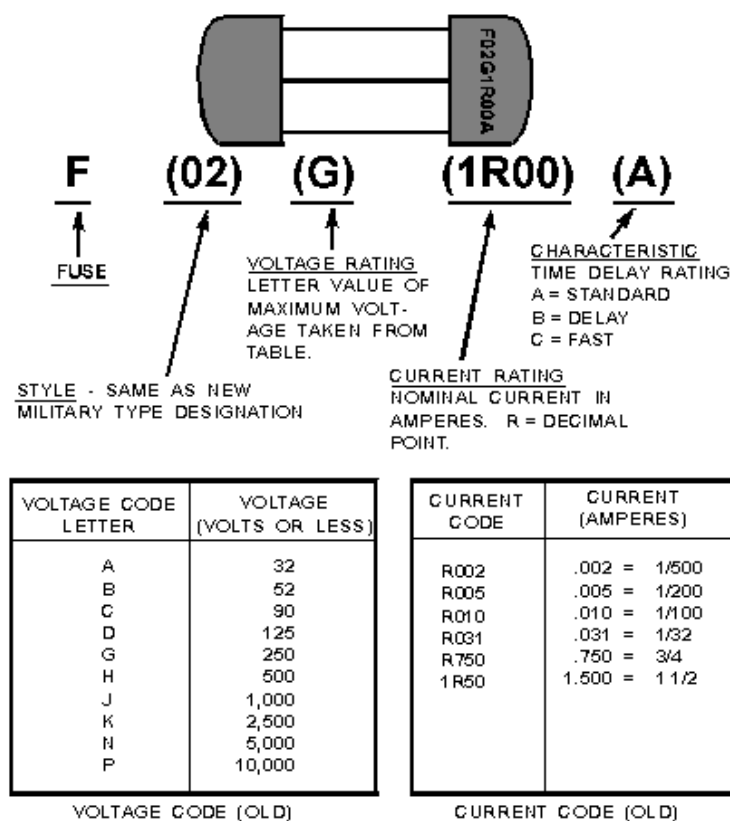
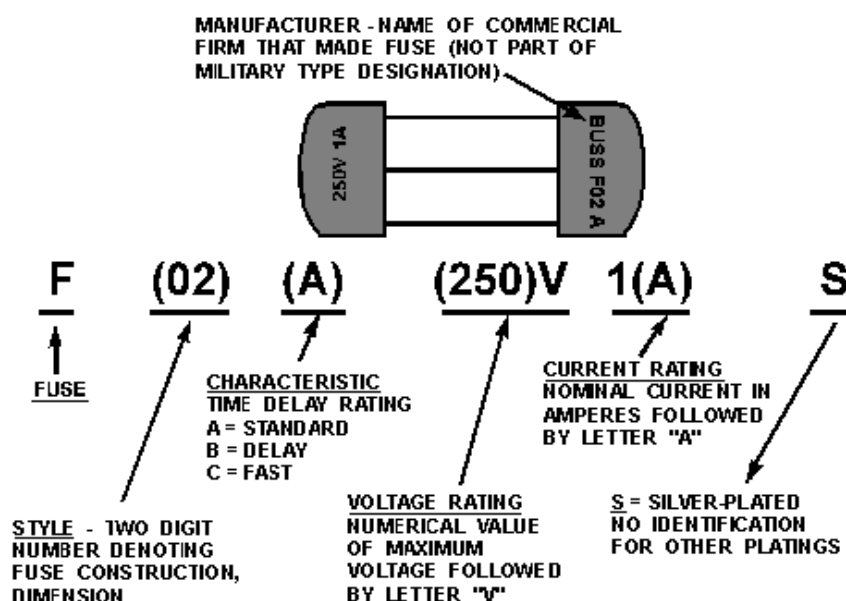
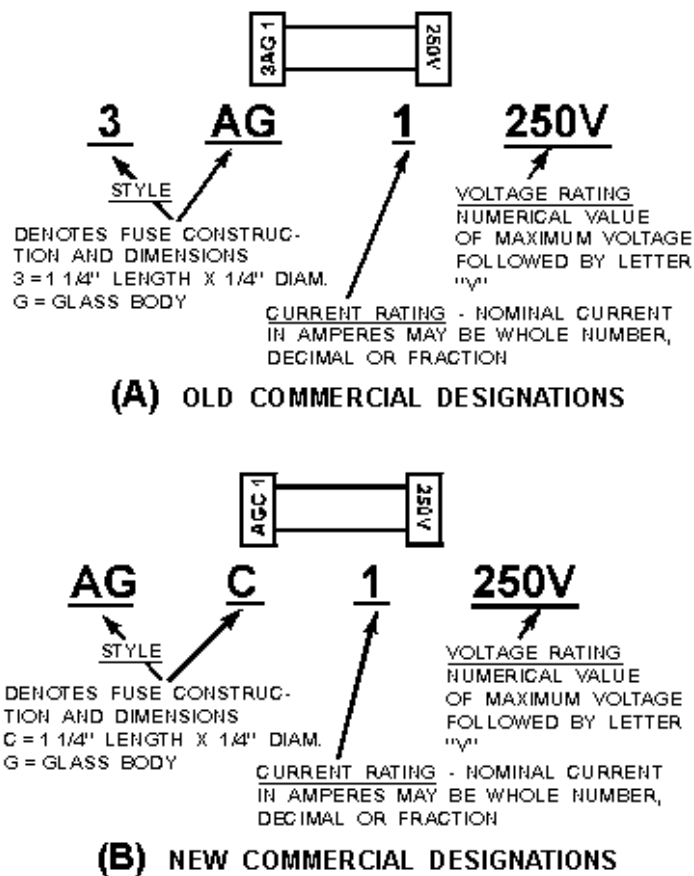

Figure 2-8.—Old type military fuse designation.
Figure 2-9.—New type military fuse designation.
Figure 2-10.—Commercial designations for fuses:
Figure 2-8 shows a fuse with the old military designation. The tables in the lower part of the figure show the voltage and current codes used in this system. The upper portion of the figure is the explanation of the old military designation. The numbers and letters in parentheses are the coding for the fuse shown in figure 2-8.
The old military designation always starts with "F," which stands for fuse. Next, the set of numbers (02) indicates the style. Style means the construction and dimensions (size) of the fuse. Following the style is a letter that represents the voltage rating of the fuse (G). The voltage code table in figure 2-8 shows each voltage rating letter and its meaning in volts. In the example shown, the voltage ratings is G,
which means the fuse should be used in a circuit where the voltage is 250 volts or less. After this is a set of three numbers and the letter "R," which represent the current rating of the fuse. The "R" indicates the decimal point. In the example shown, the current rating is 1R00 or 1.00 ampere. Some other examples of the current rating are shown in the current code table of figure 2-8. The final letter in the old military designation (A) indicates the time delay rating of the fuse.
Figure 2-9 is an example of a fuse coded in the new military designation. The fuse identified in the example in figure 2-9 is the same type as the fuse used as an example in figure 2-8.
You may find a fuse coded in one of the commercial designations. The commercial designations are fairly easy to understand and figure 2-10 shows the old and new commercial designations for the same type of fuse that was used in figures 2-8 and 2-9.
Figure 2-10, view A, shows the old commercial designation for a fuse. The first part of the designation is a combination of letters and numbers (three in all) that indicates the style and time delay characteristics. This part of the designation (3AG) is the information contained in the style and time delay rating portions of military designations.
In the example shown, the code 3AG represents the same information as the underlined portions of F02 G 1R00 A from figure 2-8 (Old Military Designation) and F02A 250VIAS from figure 2-9 (New Military Designation). The only way to know the time delay rating of this fuse is to look it up in the manufacturer's catalog or in a cross-reference listing to find the military designation. The catalog will tell you the physical size, the material from which the fuse is constructed, and the time delay rating of the fuse. A 3AG fuse is a glass-bodied fuse, 1/4 inch × 1 1/4 inches (6.35 millimeters × 31.8 millimeters) and has a standard time delay rating.
Figure 2-10, view B, shows the new commercial designation for fuses. It is the same as the old commercial designation except for the style portion of the coding. In the old commercial system, the style was a combination of letters and numbers. In the new commercial system, only letters are used. In the example shown, 3AG in the old system becomes AGC in the new system. Since "C" is the third letter of the alphabet, it is used instead of the "3" used in the old system. Once again, the only way to find out the time delay rating is to look up this coding in the manufacturer's catalog or to use a cross-reference listing. The remainder of the new commercial designation is exactly the same as the old commercial designation.